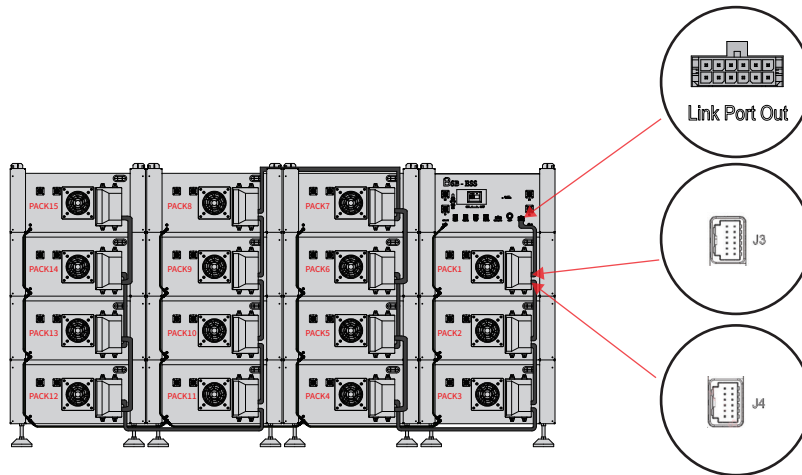

Figure 10
Step 2: Connect the high-voltage box "LINK Port Out" and PACK1 "J3" with the communication cable. Connect the PACK1 "J4" and PACK2 "J3" with the communication cable, and then connect the PACK2 "J4" and PACK3 "J3" with communication cable, and so on, as shown in Figure 10.